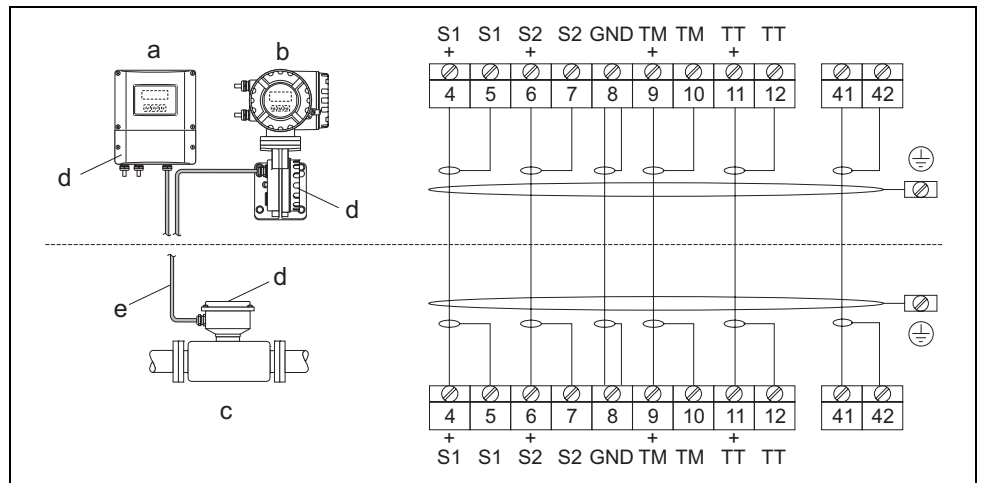

Fig. 21: Connecting the remote version
3. Establish the connections between sensor and transmitter in accordance with the wiring diagram (see Fig. 21 or wiring diagram inside cover).